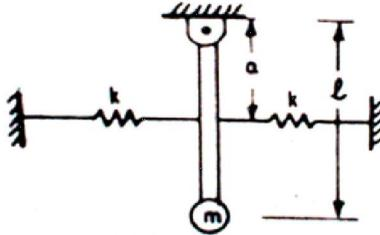

Fig. 1
- (b) A pendulum consists of a stiff weightless rod of length (L) carrying a mass (m) on its end as shown in fig. 1. Two springs each of stiffness (k) are attached to the rod at a distance (a) from the upper end. Determine the frequency of small oscillations.